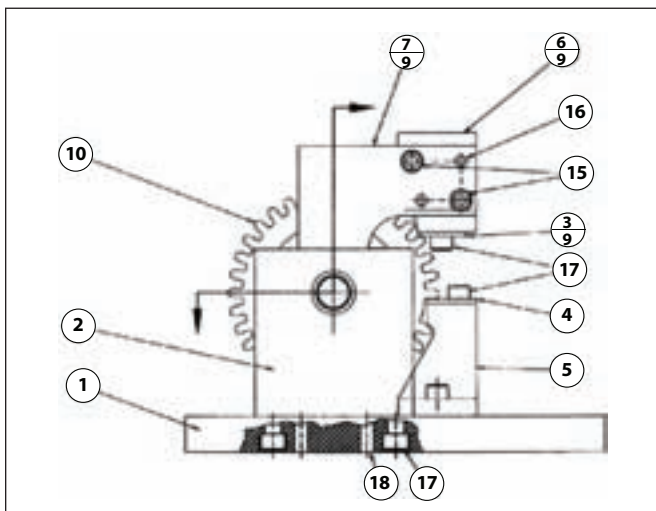

Figure 2—SAE J1619 test scheme.
1. In a “true” STF scheme, like a SAE J1619 (Ref. 4) test rig for instance (Fig. 2), the gear is supported by a pin; one tooth is tested while a second one, which is loaded at a lower position along the profile, acts as a reaction tooth. Such a scheme is more common in the United States. With this scheme, some problems can arise if the tests are performed on mechanical resonance machines and the tests are not stopped before reaching the final breakage.